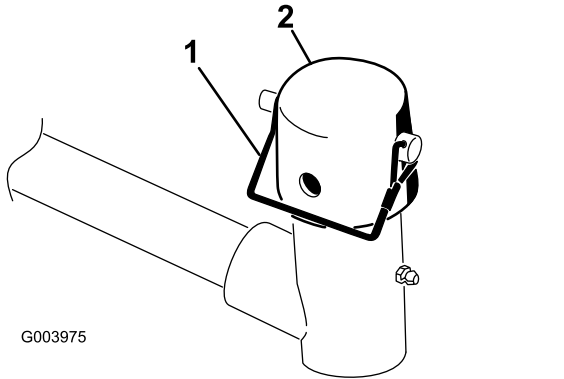

Figure 10
7. Remove the snapper pin and the cap from the lift-arm pivot yoke (Figure 10).
11. Secure the cap and the carrier-frame shaft to the lift-arm yoke with the snapper pin (Figure 10).